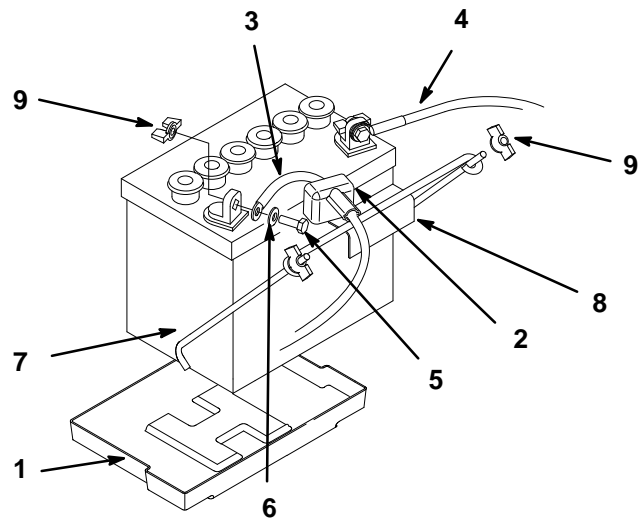

Figure 4
2. Position battery in tray with terminal posts toward the engine (Fig. 4).
4. Install the positive (red) battery cable to positive (+) battery terminal then negative battery cable to the negative (-) battery terminal. Secure cables with (2) 1/4 x 3/4" (19 mm) bolts 1/4" washers, 1/4" lock washers and 1/4" locknuts.
5. Secure battery with (2) support rods, a battery clamp and (2) 1/4" wing nuts. Position support rods in mounting holes (Fig. 4). Tighten wing nuts so battery is held securely in position and will not slide. **DO NOT OVERTIGHTEN.**